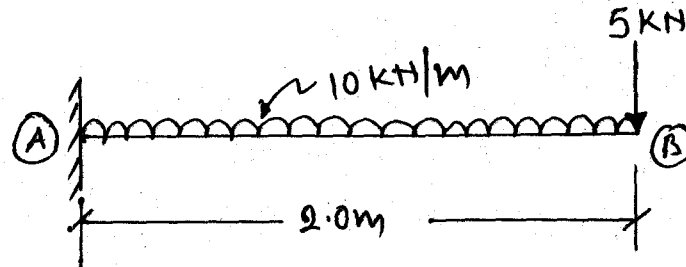

Fig. 4
- (2) Draw shear force and bending moment diagram of a given beam. (Fig. 4)